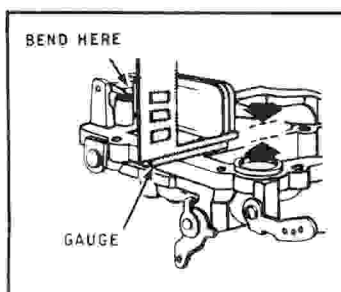

Figure 1
- H. Some late model carburetors will contain an "S" shaped pump connector link (14). Reinstall with upper end, through hole in pump lever, facing away from center of carburetor. Lower end must face center of carburetor through hole in pump plunger stem.
A. Float Level: (Fig. 1)